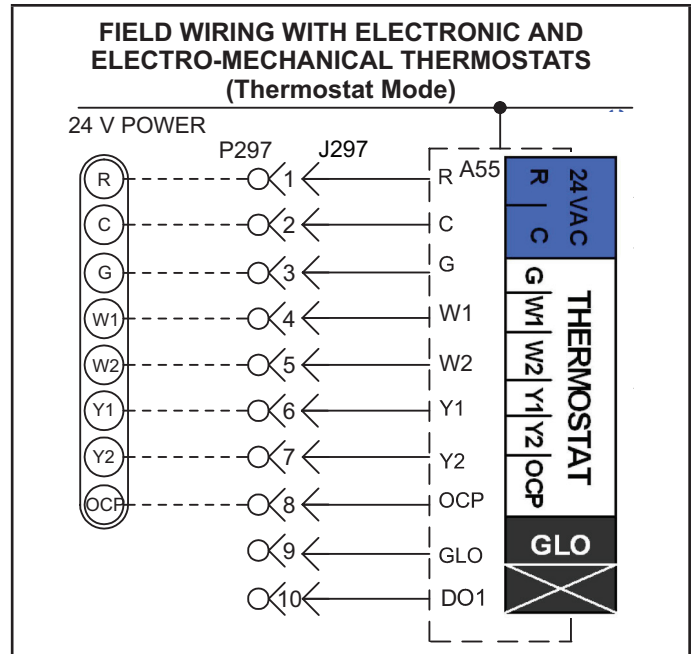
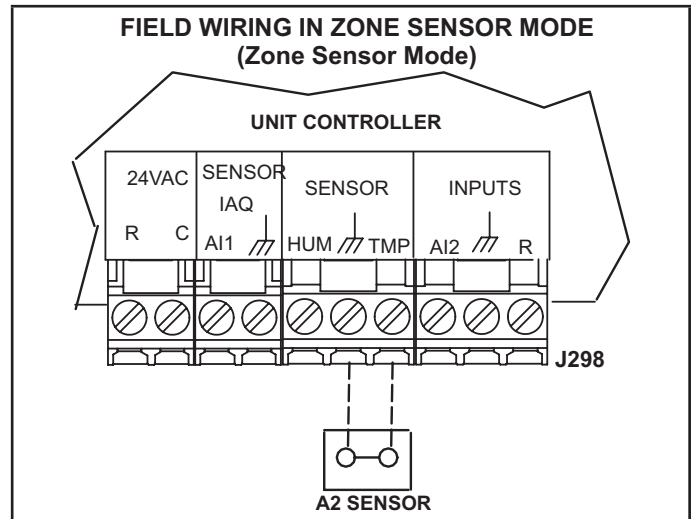
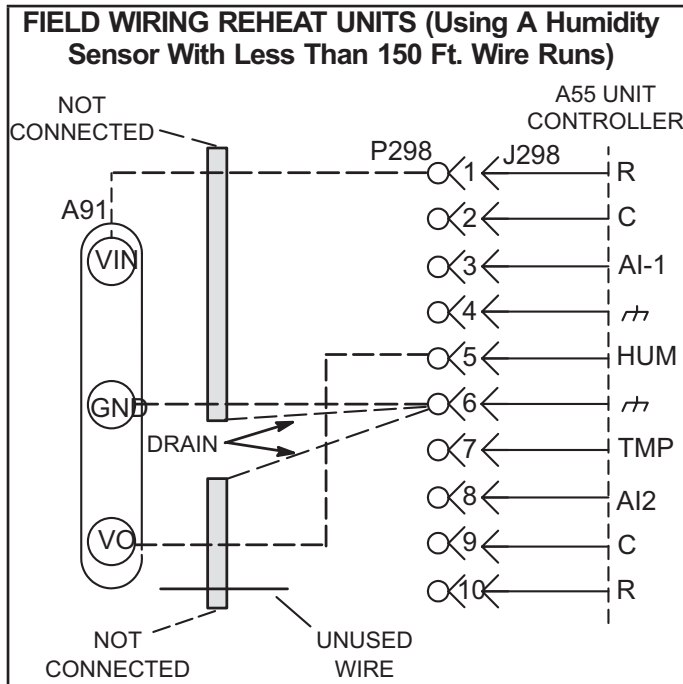

FIGURE 8
FIGURE 9
FIGURE 10
The Unit Controller will operate two stages of heating and cooling based on thermostat demands. Install thermostat assembly in accordance with instructions provided with thermostat. See FIGURE 8 for field wiring and refer to wiring diagrams on unit.
The Unit Controller will operate heating and cooling based on the Unit Controller internal setpoints and the temperature from the A2 zone sensor. An optional Network Control Panel (NCP) can also be used to provide setpoints. A thermostat or return air sensor can be used as a back-up mode. Make zone sensor wiring connections as shown in FIGURE 9.
- 2 - Make wiring connections as shown in FIGURE 8 for Thermostat Mode and FIGURE 9 for Zone Sensor Mode. In addition, connect either a humidity sensor or a dehumidification input. See FIGURE 10 or FIGURE 11 for humidity sensor wiring and FIGURE 12 for dehumidification input wiring.
Use two separate shielded cables containing 20AWG minimum, twisted pair conductors with overall shield. Belden type 8762 or 88760 (plenum) or equivalent. Connect both cable shield drain wires to TB1-7 as shown in FIGURE 10.
Use two separate shielded cables containing 18AWG minimum, twisted pair conductors with overall shield. Belden type 8760 or 88760 (plenum) or equivalent. Connect both cable shield drain wires to TB1-7 as shown in FIGURE 10.